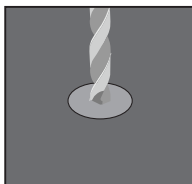

Figure 10.4
6. Then drill a 5/8 in./16mm diameter hole with a depth of 2 1/8 in./54mm and remove any excess dust (Figure 10.4).